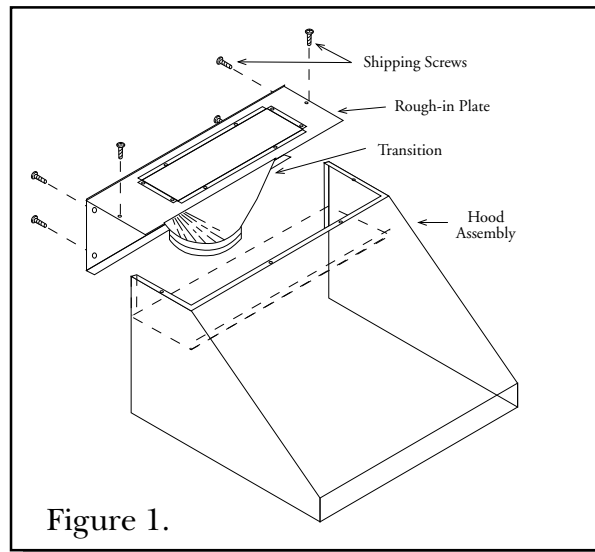
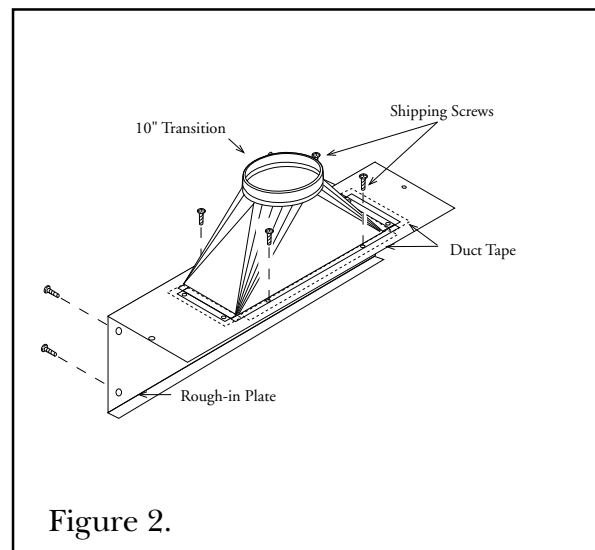

Figure 1.
Figure 2.
Note: The transition is shipped upside down within the hood unit and must be removed and reinstalled. (See Figures 1 through 3.)
2. To detach the rough-in plate/transition from the hood unit, remove the four (4) screws on the top and four (4) screws on the back of the unit as shown in Figure 1.
3. Detach the transition from the rough-in plate by removing four (4) screws. The shipping screws are needed for re-attaching the transition to the rough-in plate.
4. Secure the transition to the top of the rough-in plate, using four (4) screws provided. Use duct tape to seal the joints of the transition and the top of the rough-in plate. (See Figure 2.)